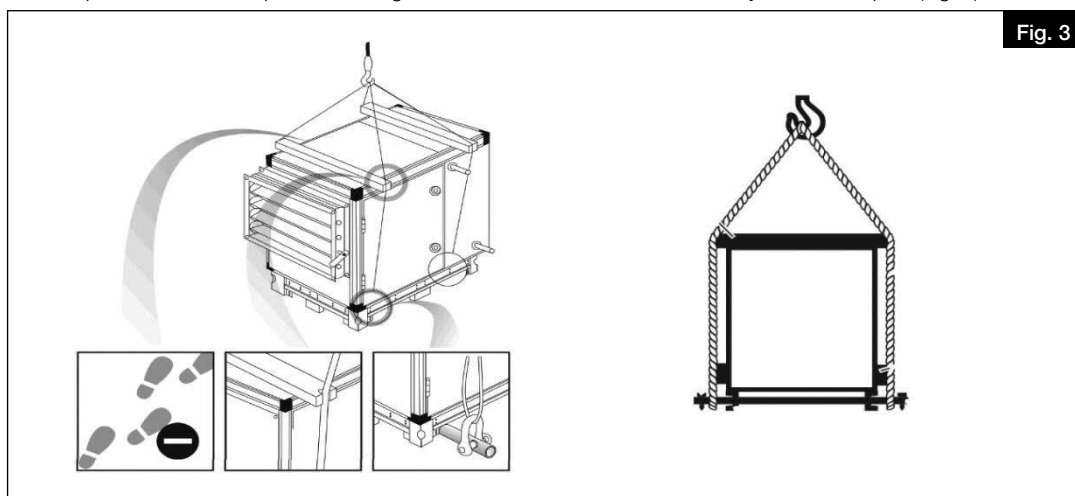

Fig. 3
If the unit is transported with a crane, the transportation frame holes in the base frame must be used, see Fig. 3).
4. The spacers are used to prevent damage to the unit which could be caused by chains or ropes. (Fig. 3).